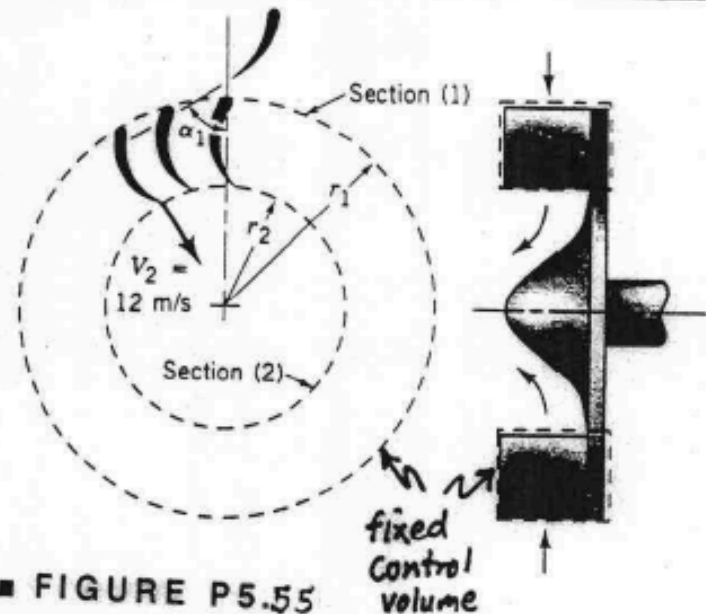

**FIGURE P5.53**
**5.53** Water enters a rotating lawn sprinkler through its base at the steady rate of 16 gal/min as shown in Fig. P5.53. The exit cross section area of each of the two nozzles is  $0.04 \text{ in.}^2$  and the flow leaving each nozzle is tangential. The radius from the axis of rotation to the centerline of each nozzle is 8 in. (a) Determine the resisting torque required to hold the sprinkler head stationary. (b) Determine the resisting torque associated with the sprinkler rotating with a constant speed of 500 rev/min. (c) Determine the angular velocity of the sprinkler if no resisting torque is applied.